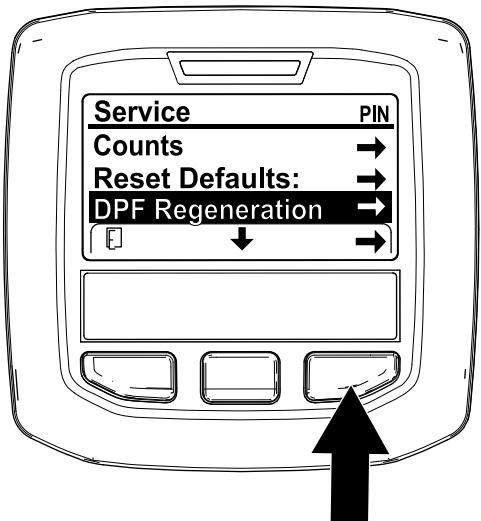

Figure 41
- Access the Service menu, press the center button to scroll down to the DPF REGENERATION option (Figure 41).
- Press the right button to select the DPF Regeneration entry (Figure 41).